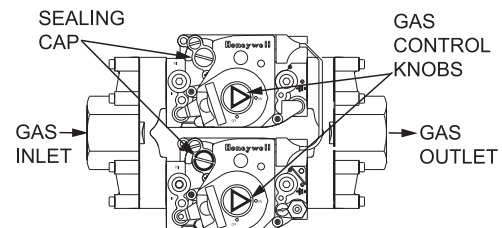

FIGURE 25
Figure 25 shows the type of combination manual gas control valve and regulator used on these heaters.
3. Remove the regulator adjustment sealing cap, fig. 25, and adjust the pressure by turning the adjusting screw with a screwdriver.